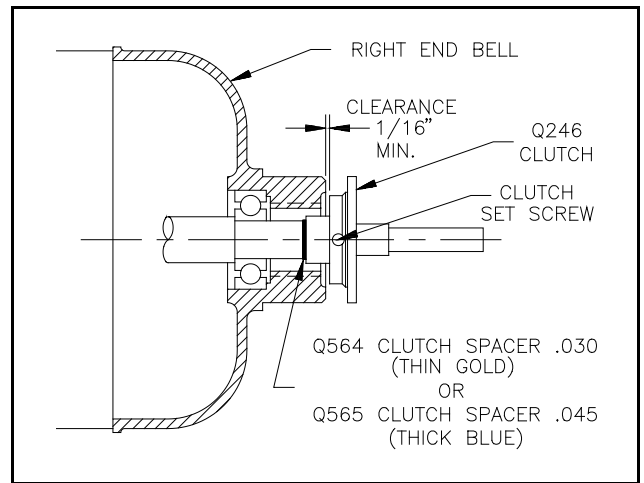

Figure 7. Clutch position
- 7.1 With the fiber side of the clutch facing away from the lathe, slide it onto the shaft until it stops. Measure the clearance between the hub and the clutch. See Figure 7. If it is less than 1/16", remove the clutch and install the thinner gold spacer. Recheck the clearance. If it is still less than 1/16", remove the gold spacer and try the blue one. If the clearance is still less than 1/16" install both spacers.